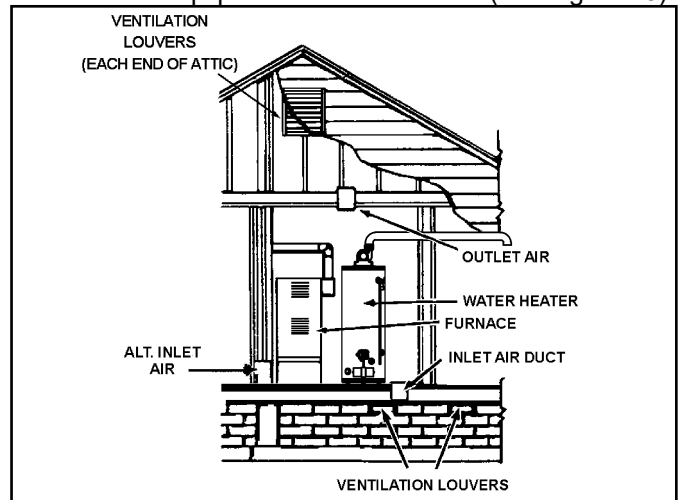
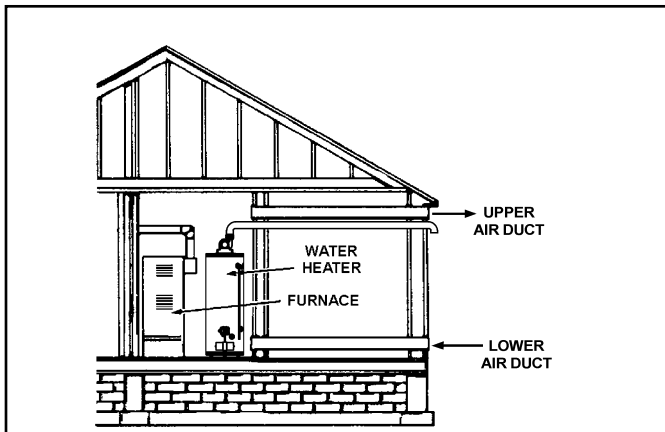

Figure 18.
Figure 20.
B. ALL AIR FROM OUTDOORS: (See Figure 18 through Figure 20)
1. When directly communicating with the outdoors, each opening shall have a minimum free area of 1 square inch per 4,000 Btu/hr of total input rating of all equipment in the enclosure (see Figure 18).
- When communicating with the outdoors through horizontal ducts, each opening shall have a minimum free area of 1 square inch per 2,000 Btu/hr of total input rating of all equipment in the enclosure (see Figure 20).
- When ducts are used, they shall be of the same cross-sectional area as the free area of the openings to which they connect. The minimum short side dimension of rectangular air ducts shall not be less than 3 in. (see Figure 20).